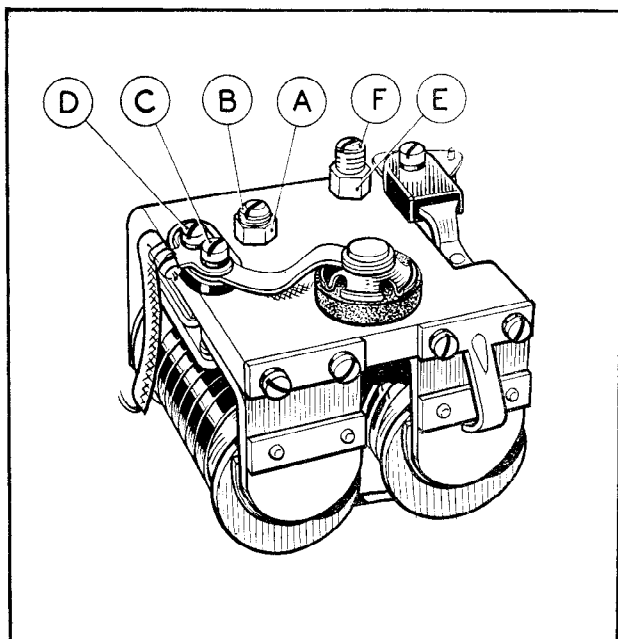

Fig. 5.
Refer to Fig. 5 and release locknut (A) holding adjusting screw (B) and turn the screw in a clockwise direction to raise the setting or in an anti-clockwise direction to lower the setting. Turn the screw a fraction of a turn only at a time and then tighten the
After long periods of service it may be found necessary to clean the vibrating contacts of the regulator. These are made accessible by slackening the screws securing the plate carrying the fixed contact. It will be necessary to slacken the upper screw (C) a little more than the lower (D) so that the contact plate can be swung outwards (see Fig. 5). Clean the contacts with fine carborundum stone or fine emery cloth.